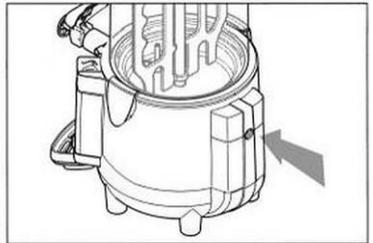

Fig. 3
5. Use an appropriate tool to press the reset button (Fig. 3).